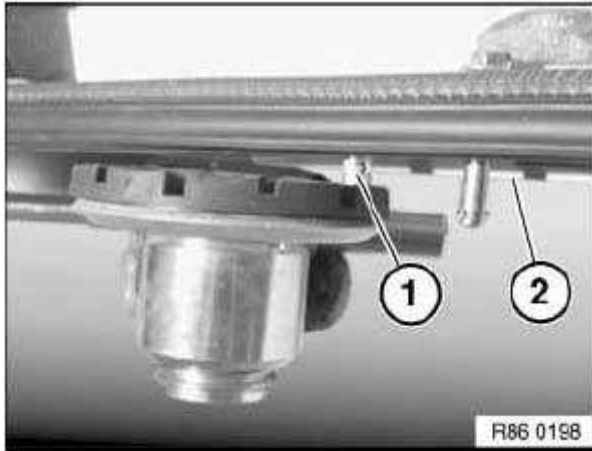

Fig. 27: Identifying Centering Pin And Hood
IMPORTANT: The hood may only be raised at the pin (1). Under no circumstances may the hood be raised at the GFP edge of the hood (2). See Fig. 27. Exclusively for removal of pin (1), raise the hood in the GFP area.